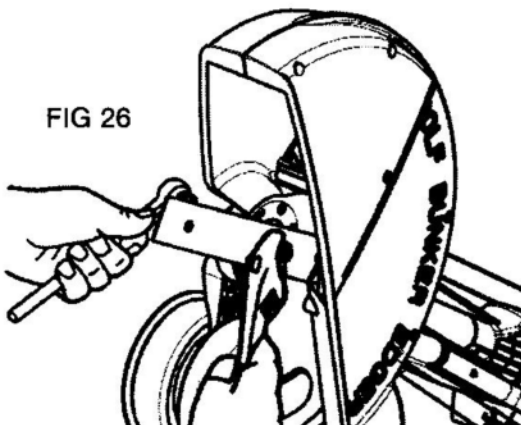

FIG 26
2. Through dust cover hole, place 14 mm socket and place 17 mm wrench on blade nut (Fig. 26).